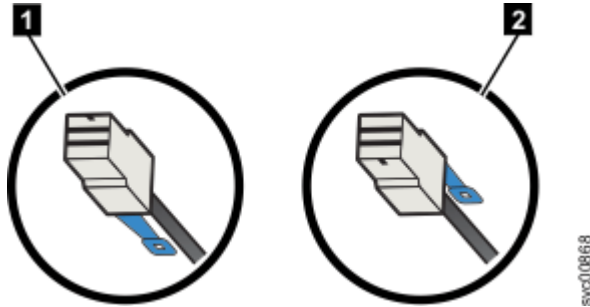

Figure 57. SAS cable connector orientation
When you insert SAS cables, make sure the connector (Figure 57 on page 98) is oriented correctly.
- For FlashSystem control enclosure node canisters and 2U expansion enclosures, the blue pull tab must be below the cable (**1** in Figure 57 on page 98).
- For 5U expansion enclosure canisters, the blue pull tab must be above the connector (**2** in Figure 57 on page 98).